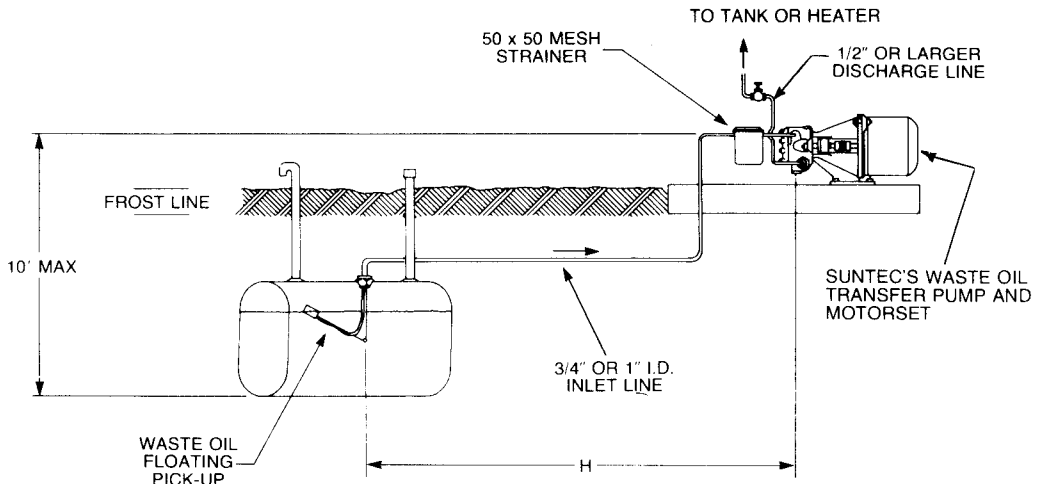

Figure 2. Typical Buried Tank Installation
B. Piping. Figure 2 illustrates a typical buried tank installation. As indicated, 3/4" or 1" I.D. inlet line may be used and, depending on the size, the following restrictions apply to the horizontal run (H) allowed: